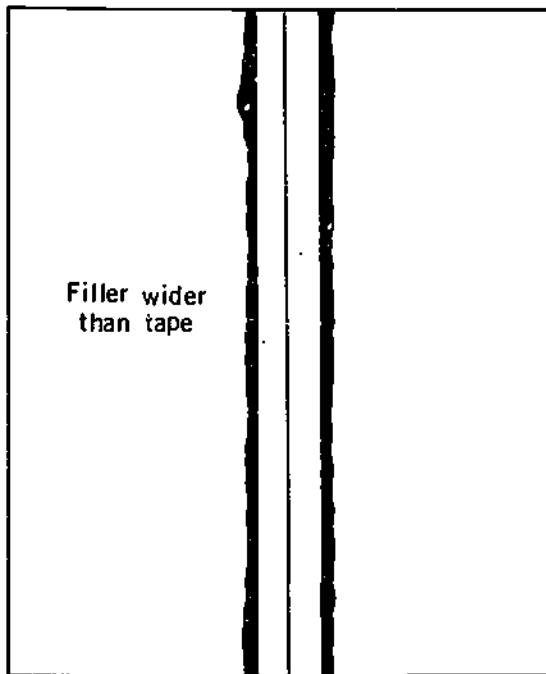

Figure 4-3
2. Load filler over the joint, making sure that the swath is slightly wider than the tape (Figure 4-3) and the filler is at least 2 mm thick.